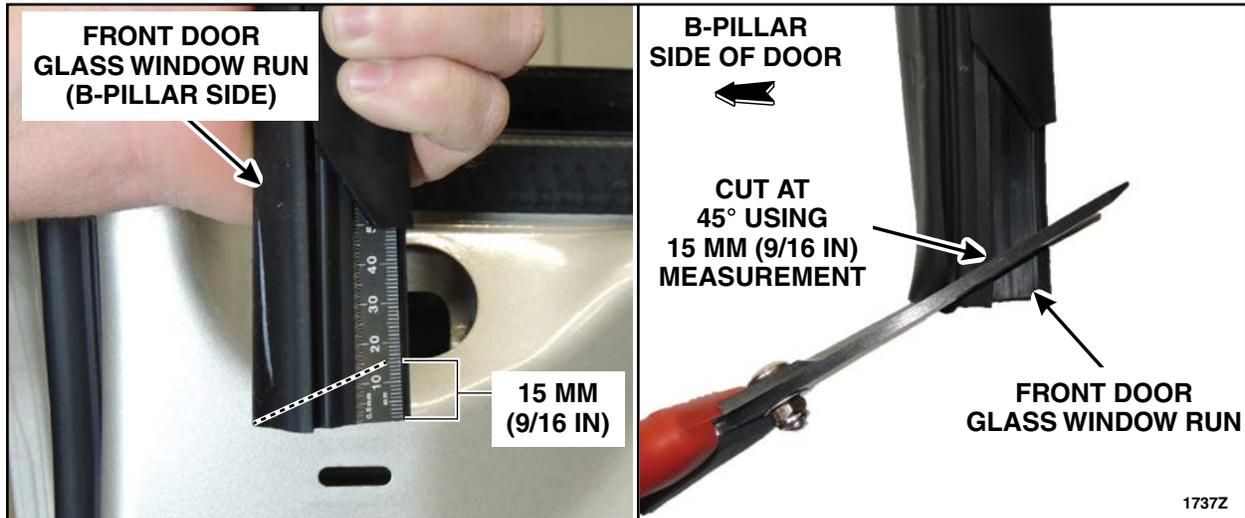

FIGURE 25
15. Modify the front door glass top run. See Figure 25.